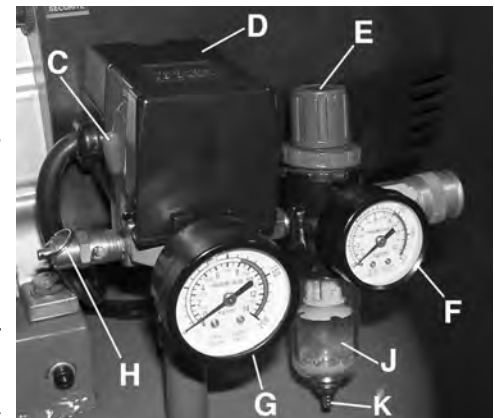

FIGURE 5
ON/AUTO-OFF SWITCH (C) FIG.5. Turn this switch ON to provide power to the automatic pressure switch and OFF to remove power at the end of each use.
PRESSURE SWITCH (D) FIG.5. The pressure switch automatically starts the motor when the tank pressure drops below the factory set “Cut-In” pressure. It also stops the motor when the air tank pressure reaches the factory set “Cut-Out” pressure.
REGULATOR (E) FIG.5. The air pressure coming from the air tank is controlled by the regulator. Lift the regulator knob to unlock it and then turn it clockwise to increase pressure and counter-clockwise to decrease pressure, push bouton down to relock it into position. To avoid minor readjustment after making a change in the pressure setting, always approach the desired pressure from a lower pressure. When reducing from a higher to a lower setting, first reduce the pressure less than that desired, then bring it up to the desired pressure. Depending on the air requirements of each particular accessory, the outlet regulated air pressure may have to be adjusted while operating the accessory.
OUTLET PRESSURE GAUGE (F) FIG.5. The outlet pressure gauge indicates the air pressure available at the outlet side of the regulator. The pressure is controlled by the regulator and is always less than or equal to the tank pressure.
TANK PRESSURE GAUGE (G) FIG. 5. The tank pressure gauge indicates the air pressure in the tank.
SAFETY VALVE (H) FIG. 5. If the pressure switch does not shut off the air compressor at its cutout pressure setting, this safety valve will protect against high pressure by “popping out” at its factory set pressure (slightly higher than the pressure switch cut-out setting).
WATER FILTER (J) FIG. 5. The water filter allows you to drain water periodically based on the amount of condensation which forms. Pull down on the drain valve (K) Fig.5 to drain water from the water filter. **Warning!** Do not pull drain valve while tank is under pressure or else risk of projectile.
9. Pull ring on safety valve (H) Fig. 5, allowing air to bleed from the tank until tank pressure is approximately 20 psi. Release safety valve ring.
NOTE: If drain valve is plugged, pull ring on safety valve (H) Fig. 5, and hold until air pressure has been released. The valve can then be removed, cleaned, and reinstalled.
4. Pull ring on safety valve (H) Fig. 5, allowing air to bleed from the tank, until tank pressure is approximately 20psi. Release safety valve ring.
- NOTE: If drain valve is plugged, pull ring on safety valve (H) Fig. 5, and hold until air pressure has been released. The valve can then be removed, cleaned, and reinstalled.